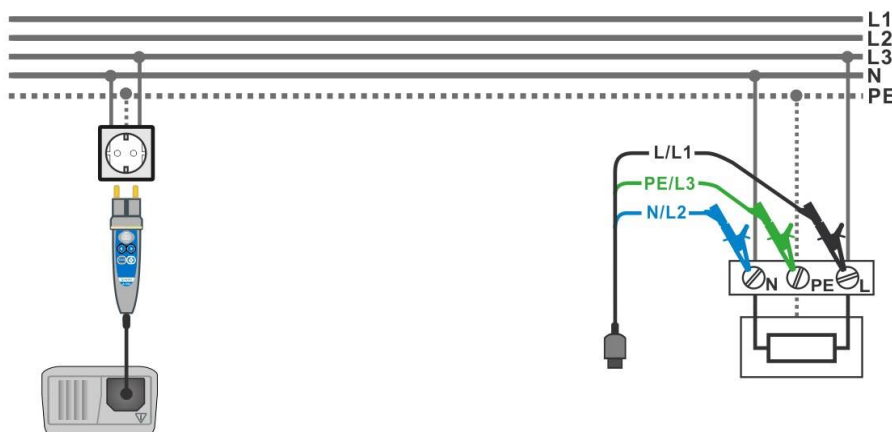

Figure 5.24: Connection of plug commander and 3-wire test lead
- ❑ **Connect** test leads to the item to be tested (see figure 5.24 and 5.17).